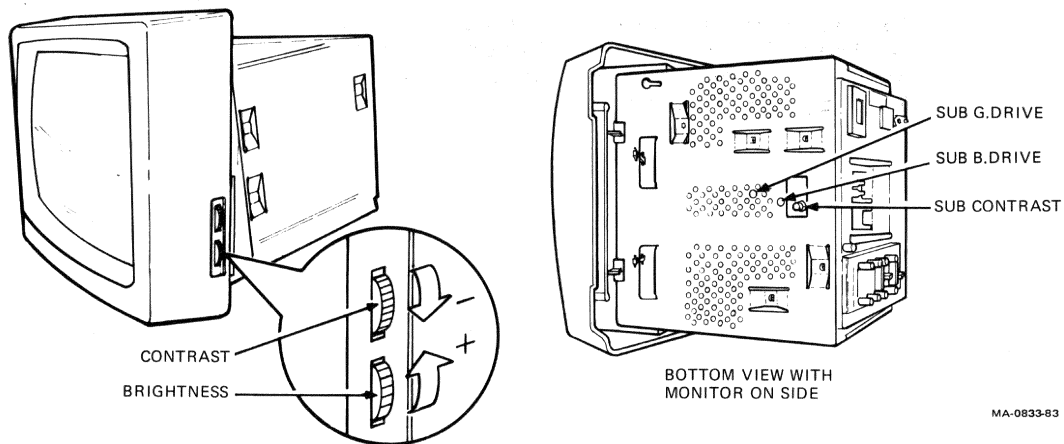

Figure E-15 Presets (part 1)
3. Vary contrast control between maximum and minimum. (See Figure E-15.)
1. Turn BRIGHTNESS control to maximum. (See Figure E-15.)
6. Turn green drive (G. DRIVE) and blue drive (B. DRIVE) controls fully counterclockwise. (See Figure E-15.)